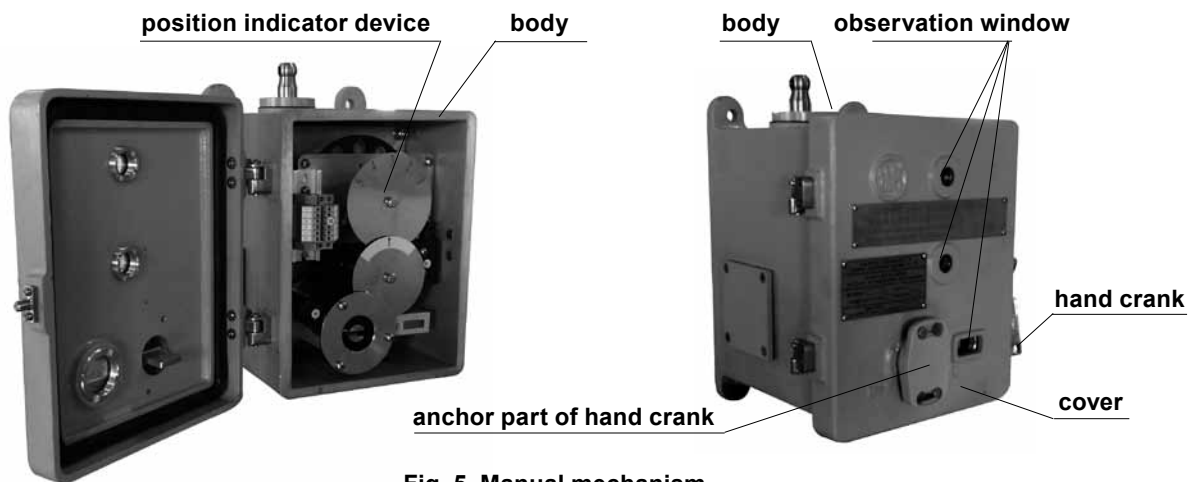

Fig .5 Manual mechanism
3.2.3 Manual operating unit (Fig.5) Manual operating unit consists of tank, tank cover, internal gear mechanism and position indicator. 33 turns manual operation makes one position tap change.
Open the hand crank cover, take out the fixture part and insert into the hand crank then turn 33 cycles. Observe through the window whether the position indication is right. Keep turning until the red arrow lined up with the red line of the indication plate. Take out the hand crank and insert the fixture part so that one tap change is completed, the transformer can resume operating. (See Fig. 5)